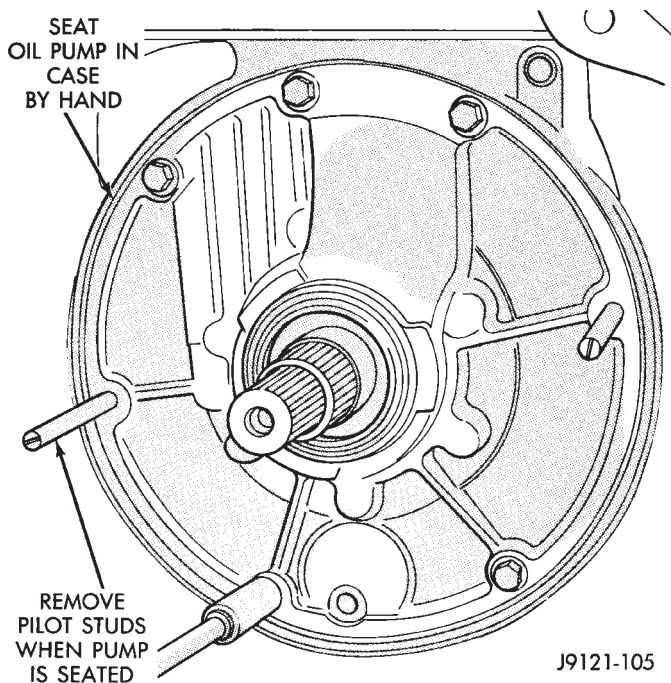

Fig. 150 Oil Pump Installation—46RH
(32) Lubricate oil pump seals with petroleum jelly or transmission fluid.
(33) Mount oil pump on pilot studs and slide pump into case opening (Fig. 150). **Work pump into case by hand. Do not use a mallet or similar tools to seat pump.**
(34) Remove pilot studs and install oil pump bolts. Tighten pump bolts alternately and evenly to fully seat pump in case. Then final-tighten pump bolts to 20 N•m (15 ft. lbs.) torque.
(35) Verify correct assembly. Rotate input and output shafts and check for bind. If bind exists, components are either misassembled, or not seated. Disassemble and correct as necessary before proceeding.
(36) Check input shaft end play as follows: